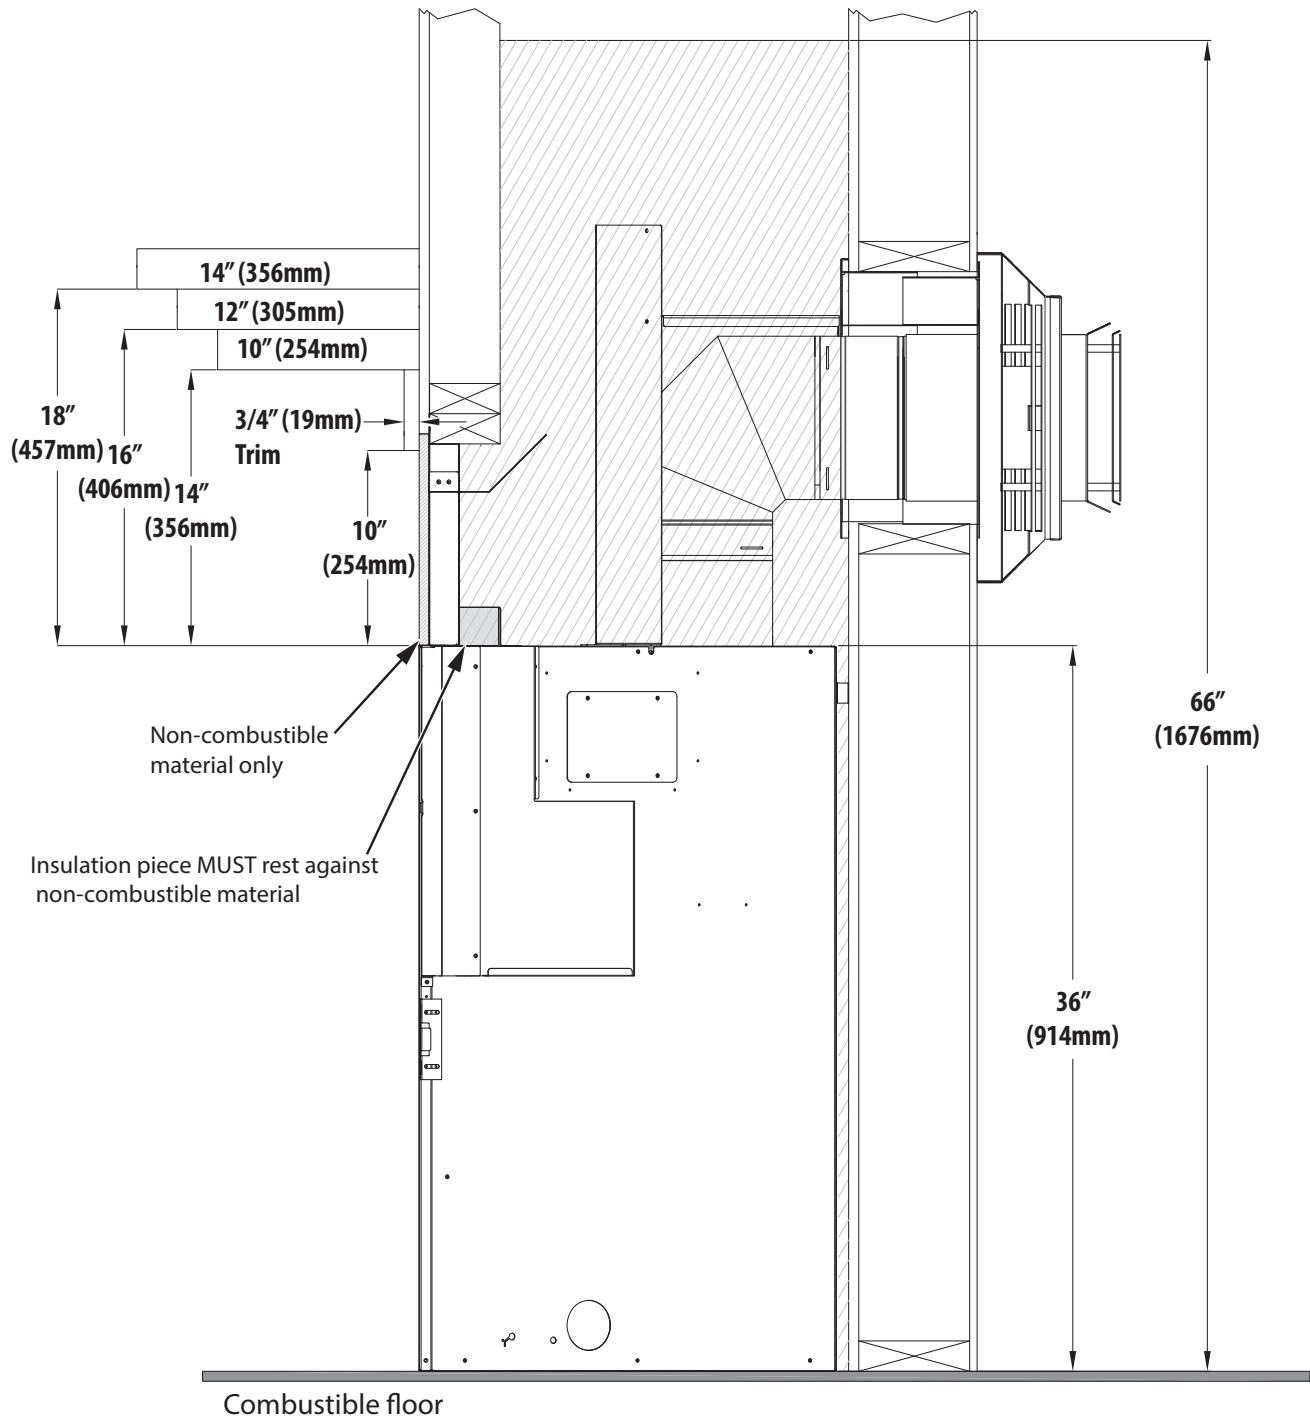

FIGURE 4.1 *Combustible Mantel Requirements*
- **Combustible Mantel Projections** - As referenced in **FIGURE 4.1**, the 3/4" mantel trim can start at 10" (254mm) above the top of the appliance with a 10" (254mm) mantel starting at 14" (354mm) above the top of the appliance. Mantel projections can increase 1" (25mm) of depth for every 1" (25mm) of height starting at the 10" (254mm) mantel.